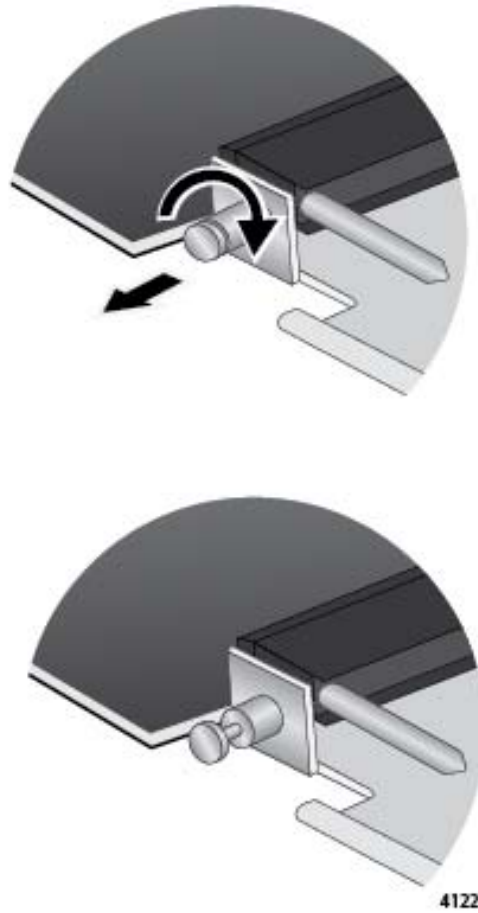

Figure 81. Retracting the Retaining Pin on the AT-SBx81XLEM Line Card
6. With your thumb and forefinger, pull out the retaining pin on the side of the line card and turn it clockwise one quarter turn so that it remains in the retracted position. Refer to Figure 81 on page 147.